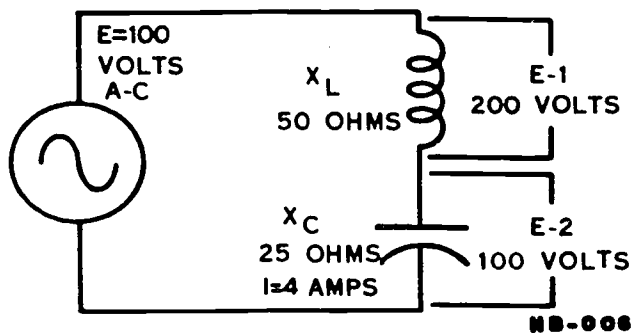

Figure 4-15. Series AC circuit.
Impedance. The counter or back voltage of a self-inducing device, which has coils or windings, cannot be seen. However, its effects are very noticeable. Look at the coil of figure 4-15. This coil is shown with 50 ohms opposition. We know that hundreds of feet of wire are required to obtain just a few ohms of opposition; the resistance of wire is determined by the diameter of the wire and the wire type. Wire in the coil of our illustration, then, is not likely to provide the indicated opposition. The self-induction feature of the coil provides the impedance, the opposition for the circuit. The self-induction opposition of a coil is changed with AC frequency changes.
The opposition shown for the coil in figure 4-15 would be further increased if it contained an iron core. The iron core allows for a better transfer of magnetic flux between the conductor loops than does an air core coil. This is the reason for the increase in opposition. To illustrate, assume that the coil in our figure has 50 millihenries of inductance and that it is replaced with an iron core coil that has 1 henry of inductance. The opposition to the circuit current should increase to approximately 1,000 ohms.
Resonance. Let us think about the circuit of figure 4-15 again. The current in the series circuit is 4 amperes and the opposition offered by the coil is 50 ohms. Using Ohm's law, you learn that the indicated voltage (200 ohms) is correct. You also should prove the values shown for the capacitor.
What else do you remember about the circuit of figure 4-15? Is it a resonant circuit? You should recall that the opposition of the inductor (X_L) must equal the opposition of the capacitor (X_C) when a circuit is resonant. This illustrated circuit does not show a resonant condition, since X_L is 50 ohms and X_C is 25 ohms. The frequency must be decreased to bring the two reactances to an equal value, since X_L decreases and X_C increases with this reduction. You also learned that the impedance of a resonant circuit is equal to the resistance, since X_L opposes X_C . In figure 4-15, the resistance would be slight at resonance because there is no resistor in the circuit. Consequently, with minimum opposition at the resonant frequency, the current is high. This illustrated figure also reveals another characteristic of an AC circuit with a series inductor and capacitor. The
- ___ 4. The current in the inductor of figure 4-15 is 4 amperes.